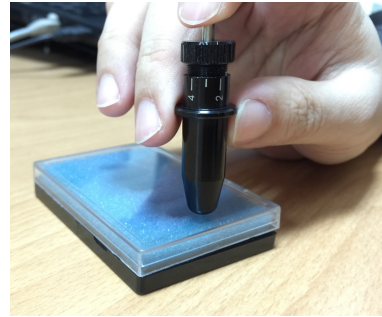

Figure 2-13
Step 2 Push the blade to the bottom of the blade holder. (Figure 2-13)